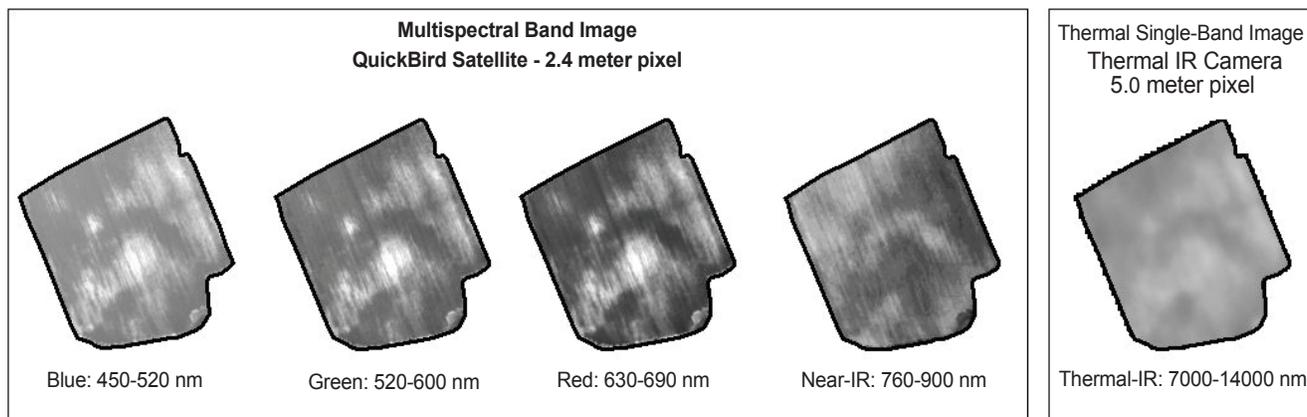

Figure 4. Spectral and spatial differences between images of two different remote sensors. Note: Images were collected from a cotton field at peak growth.
**Spectral resolution** is the sensor’s sensitivity to different wavelengths across the EM spectrum or the number and width of the wavelengths recorded by the sensor. Remote sensors are classified as multispectral (up to 10 broad wavelengths) or hyperspectral (up to 100 narrow wavelengths) and provide better distinctions as the number and width of sensed wavelengths increases. Figure 4 shows a multispectral image depicting specific features with four separate spectral wavelengths, or bands.
**Spatial resolution** refers to the sensor pixel size. A pixel is the smallest possible feature or area that a sensor can record as an individual unit. The pixel size depends on the distance between the sensor and the target, as well as on the sensor’s viewing angle, or instantaneous field of view (IFOV). The IFOV determines the area on the Earth’s surface that is visible from a given altitude at one particular moment in time. Only large features are visible from a low-resolution image (large pixel size), which has less object discrimination. In contrast, a fine- or high-resolution image (small pixel size) shows small to large objects. Figure 4 shows two sensor images with different spatial resolutions. The QuickBird image, with a higher resolution (2.4 m pixel size), depicts crop growth variability better than does the thermal infrared (IR) image with lower resolution (5 m pixel size). High-resolution images (0.5 m or smaller pixel size) are preferable for assessing within-field crop variability.